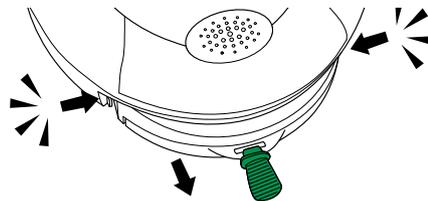

Figure 7. Removing the Pad-Pak
2. The Pad-Pak is a single-use item that contains lithium batteries. Replace the Pad-Pak after each use. With the samaritan PAD placed face up on a flat surface, squeeze the two tabs on the sides of the Pad-Pak and pull to remove it from the samaritan PAD. The Pad-Pak will slide forward (see Figure 7).